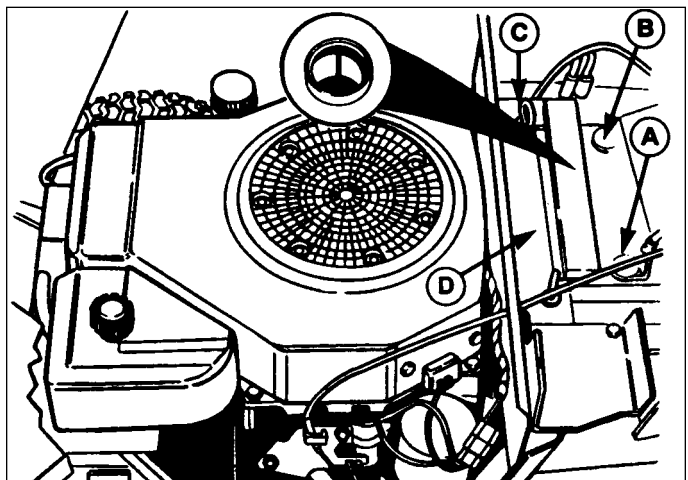

Figure 6. Battery
1. Disconnect the cables from the battery, negative cable first (B, Figure 6).